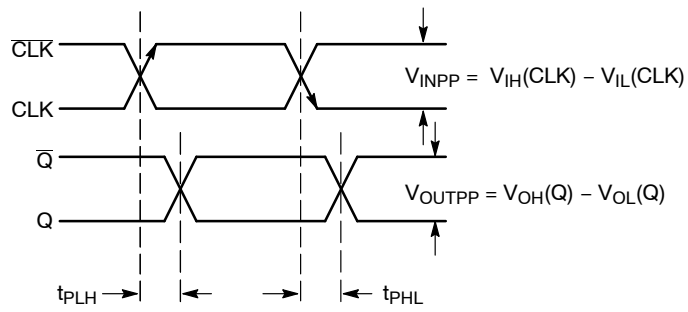

Figure 5. AC Reference Measurement
23. See Figure 5.  $t_{SKEW} = |t_{PLH} - t_{PHL}|$  for a nominal 50% Differential Clock Input Waveform.
28. See Figure 5.  $t_{\text{SKEW}} = |t_{\text{PLH}} - t_{\text{PHL}}|$  for a nominal 50% Differential Clock Input Waveform.